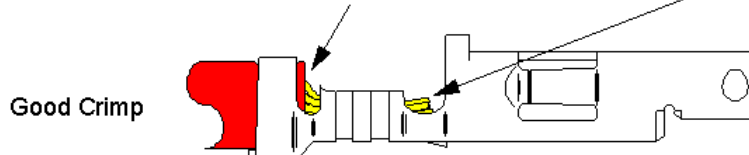

FIG. 15
## 5.2.7 Wire Inserted Too Far (fig. 15)
- Another crimping problem that relates to a too short strip length occurs when the wire is inserted too far into the crimp sections. As the fig.15 below shows, the insulation is too far forward of the insulation crimp section and the conductors protrude into the transition section. This may cause as many as three failure modes in the actual application. Two relate to a reduced current rating/wire pull out force due to a reduction of the metal-to-metal contact in the conductor crimp section.